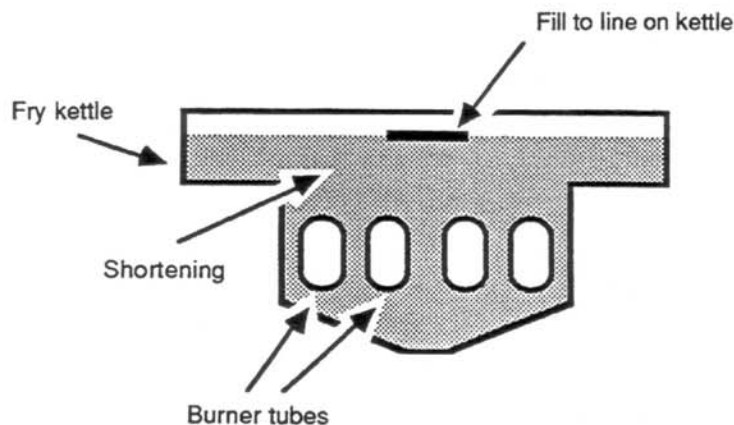

Fig. 3
Warning! Before turning on the fryer, be sure the burner tubes are covered by at least 1 inch (2.5 cm) of cooking oil or melted shortening. See Fig. 3. Never allow the burner tubes to become hot while they are surrounded with air. The heating tubes will quickly overheat and scorch the shortening.
1. Do not light the burners unless the burner tubes are covered with shortening. The fryer may overheat and cause a fire hazard. See Figure 3. The pilot burner should be lighted whenever the fryer is waiting to be used. When you turn the fryer on, the flame from the pilot will light the main burners.